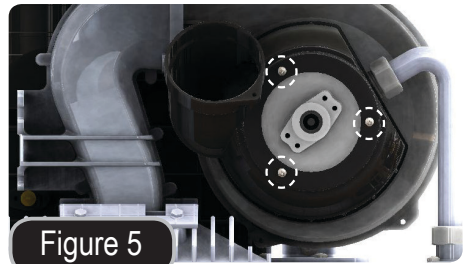

Figure 5
6. Loosen 3 screws to remove 'AGM cover'. See Figure 5.
11. Install the new Needle Assembly and use the screws for the AGM cover to hold into place, see Figure 5 for correct orientation of the needle assembly.